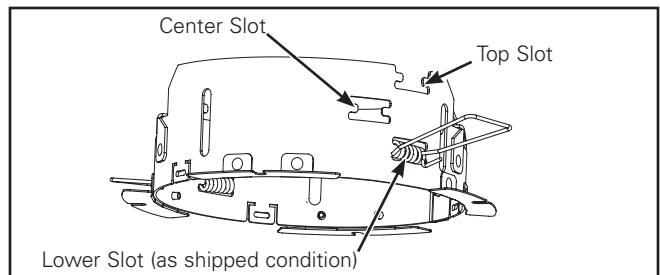

Figure 27
3. The ring can be adapted to various ceiling thicknesses and plaster frame/housing heights by using the different slot locations for the mounting springs. By default the rings are shipped with the springs in the top position for a 2" thick ceiling or housing. For ceiling thicknesses 0.5 inch to 0.75 inch use the lower slot and for thicknesses greater than 0.75" but less than 1.5" use the center slot (Figure 27).